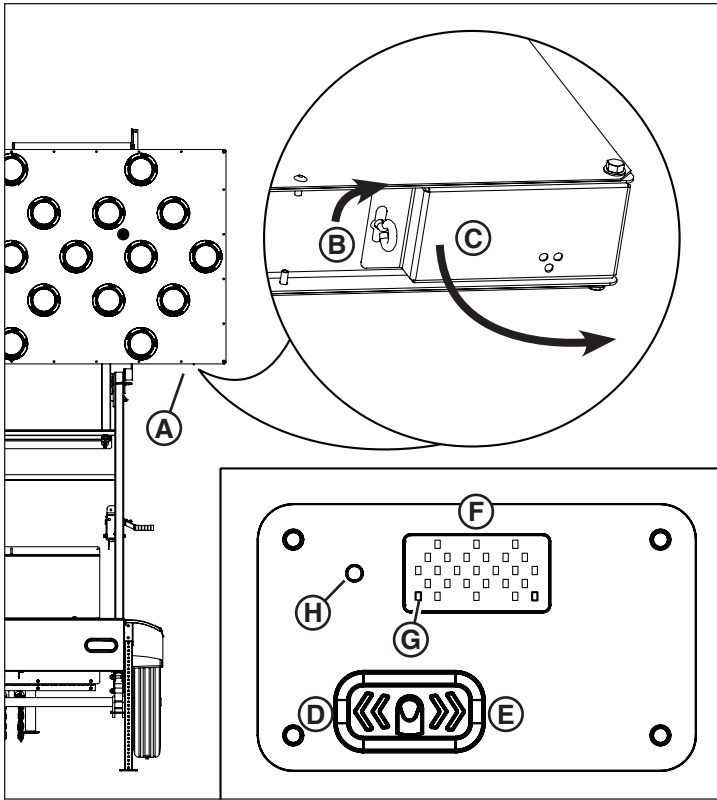
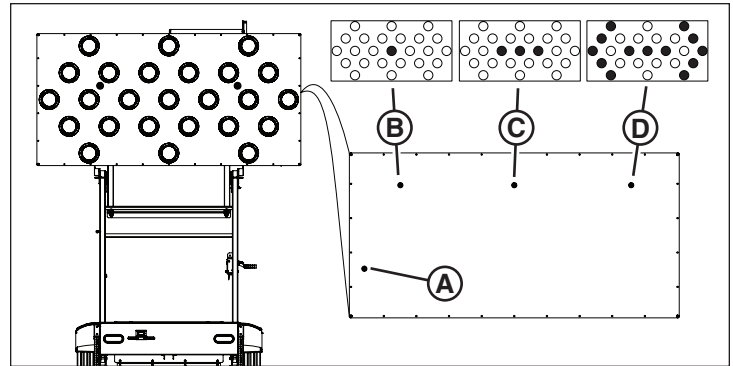

Figure 13
Figure 14
The weatherproof controller, located in the bottom right edge of the sign board (A, Figure 13), is specifically designed for the Eclipse 2400 Series arrow board trailer. It features two sealed touch buttons (D, E) that allow the operator to “scroll” forward and backward through the operating modes, and an indicator panel (F) to show the operator what mode has been selected. See “Operating Modes”. A small red indicator shows low battery warning (G).
A photocell (H, Figure 13) located on the controller senses ambient lighting and automatically varies lamp intensity to reduce power consumption. The photocell is located to prevent false signals to the controller by headlights of oncoming vehicles.
To access the controller, twist the eyelet (B, Figure 13) to unlock and open the controller door (C). A padlock can be fastened to the eyelet to prevent unauthorized access.
The red LED in the lower right corner on the back of the sign board (A, Figure 14) will flash intermittently if the battery voltage drops below 11.5 volts. Should the battery voltage drop below 11.2, in addition to the red LED, the operating mode of the sign board will automatically change to the four corner flashing caution mode. (See “Operating Modes”.) The red indicator in the lower left of the controller indicator panel (G, Figure 13) will also illuminate.
Sign board operating modes may have a one-, two- or three-part display cycle. (See “Operating Modes”.) The three amber LED’s on the back side of the sign board (B, C, D, Figure 14) are indicator lamps that will light in order through a given mode’s display cycle: Lamp B will light during the first part of the display cycle, Lamp C will light during the second part of the display cycle (if applicable), and Lamp D will light during the third part of the display cycle (if applicable).
For both 15- and 25-lamp arrow board trailers, the sign board operating mode can be selected using the forward (right) button or backward (left) button on the controller (D or E, Figure 13).
Operating modes are listed in the following tables in the order of appearance when selecting with the “forward” or right side button (E, Figure 13), beginning from the “off” mode. When starting with the “backward” or left button, the order is reversed. Either button may be used at any time to “scroll” forward or backward through the operating modes.